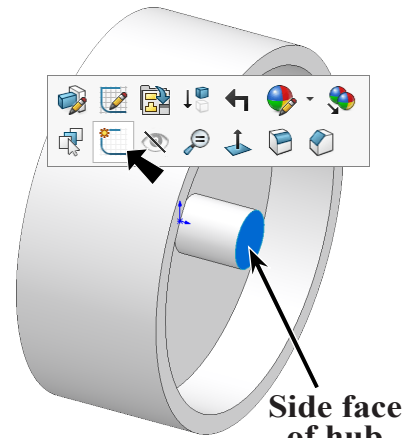

Fig. 9
Step 1. Click the **side face of hub** and click **Sketch**  on the context toolbar, Fig. 9.